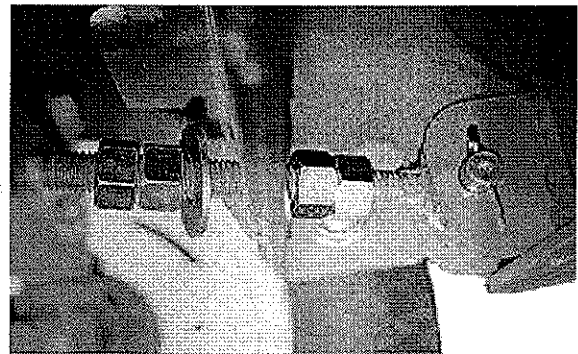

figure 3
3. Attach 2 adjustment links. Figure 3 shows an adjustment link installed. View is from underneath the lift/swing assembly.